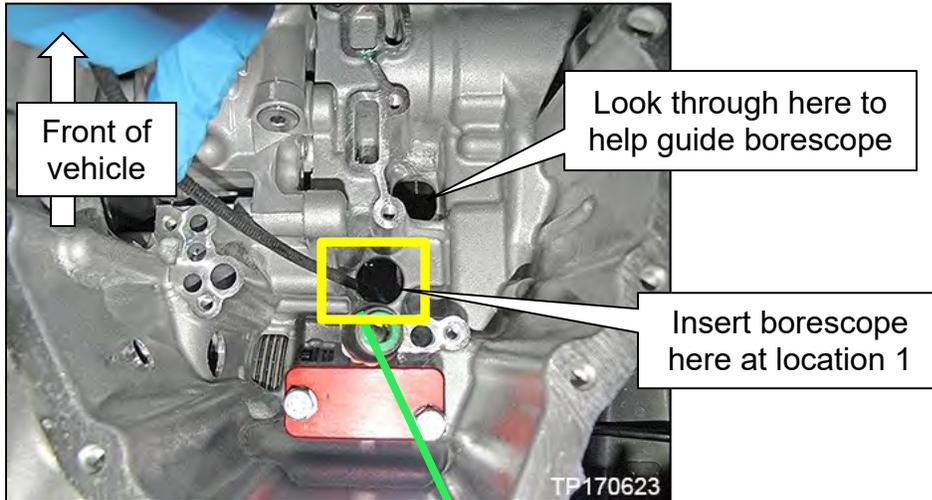

Figure 15
c. Insert the borescope where shown in Figure 15 as follows: